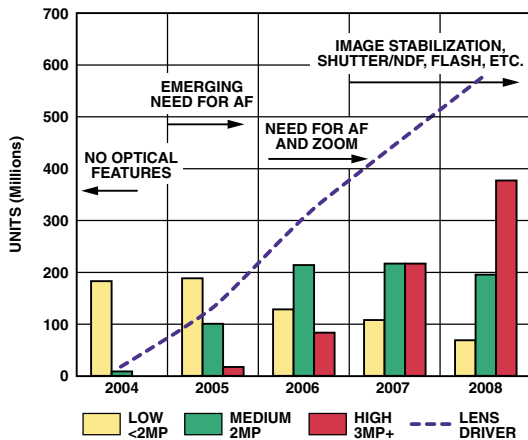

Figure 1. Camera phone and lens driver forecast to 2008.
What is now called the “Evolution of Resolution” is driving camera module development. In order to make the best use of the increased resolution, effective and rapid autofocus (AF) must accompany the increase in pixels. With autofocus becoming a standard feature, ever-increasing resolution will call for more camera features, such as optical zoom, shutter control, and image stabilization (Figure 1).